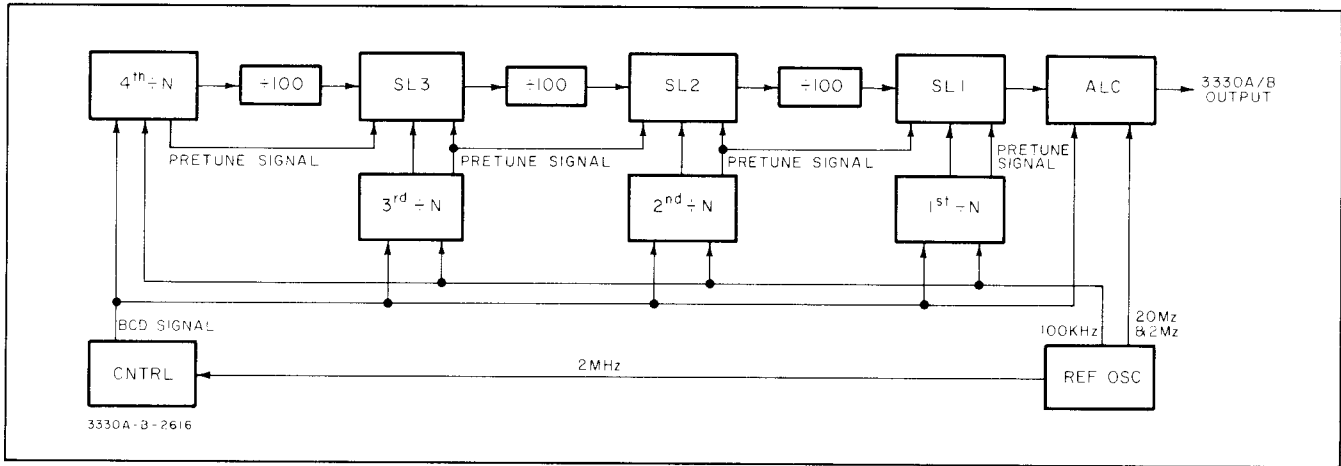

Figure 4-3. Basic Block Diagram.
4-12. The frequency generation section of the 3330A/B is composed of four phase-locked divide ($\div N$) loops and three phase-locked summation (SL) loops (see Figure 4-3). The output frequency is variable from 20,000,000.0 Hz to 33,000,999.9 Hz. The digits of the output frequency are controlled by the $\div N$ loops and effectively summed in the
4-16. SL Loop. Each of the three SL loops consists basically of a divide-by-100 circuit (÷100), a Phase Monitor, a Phase Detector, a Summing Amplifier, a VTO and a Mixer (see Figure 4-5). There are two pretune signals for each SL loop VTO. These signals are the analog signals from the ÷ N loop D/A that sets the ÷ N loop VTO (see Figures 4-3 and 4-4). The two pretune signals for the SL3 loop are from 4th ÷ N loop D/A and the 3rd ÷ N loop D/A. The two pretune signals for the SL2 loop are from the 3rd ÷ N loop and the 2nd ÷ N loop. The two pretune signals for the SL1 loop are from the 2nd ÷ N loop and the 1st ÷ N loop. These pretune signals set the SL loop VTOs within approximately 100 kHz of the desired frequency.